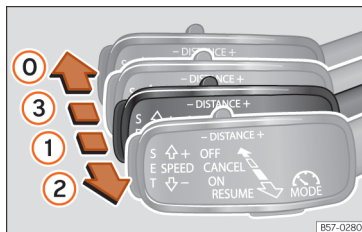
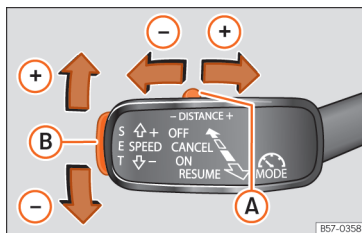

Fig. 235 On the left of the steering column: operating the ACC with the third lever.
Fig. 236 On the left of the steering column: operating the ACC with the third lever.
- To activate the ACC, move the third lever to position **ON** » **Fig. 235** (1). At this time, the ACC is not active and there is no programmed speed.
- Next, press button **SET** » **Fig. 236** (B) or move the lever to position **RESUME** »
»» Fig. 235 ②. At this moment the ACC is activated and the current speed and distance are programmed. The picture in the box will change to Active mode »» Fig. 233 [B].
- If you wish to increase speed by intervals of 1 km/h [0.6 mph], move the lever to position **RESUME** »» Fig. 235 ②, or to decrease it press button **SET** »» Fig. 236 ⑧.
- To increase or reduce the distance, press button  to the right or left »» Fig. 236.
- To disconnect the ACC move the lever to position **OFF** (fixed) »» Fig. 235 ①. An **ACC deactivated** message appears and the function is totally deactivated.